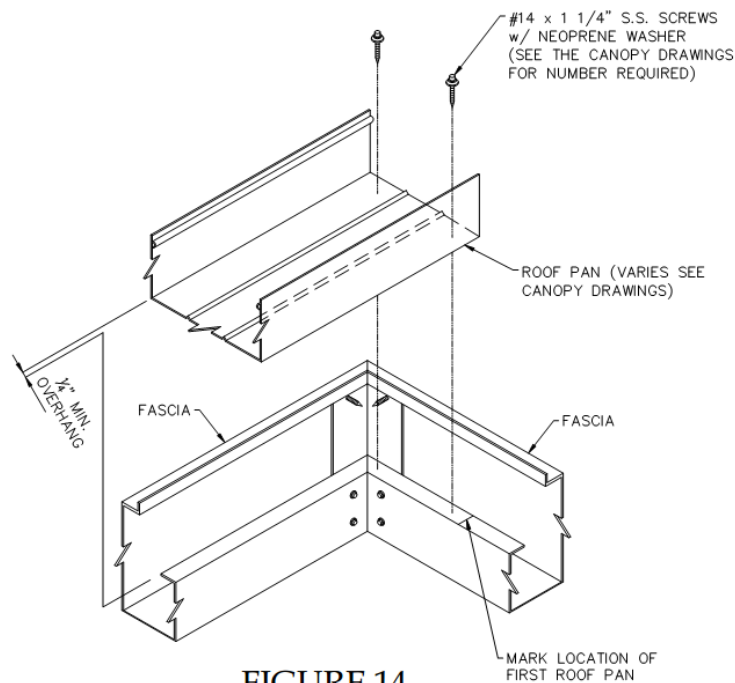

FIGURE 14
- A. Layout a starting point for the first pan to ensure that the support struts will fall inside the pans. This will vary depending on the style roof pan that is being used. Attach the first pan with SS screws with neoprene washers (Figure 14) to the fascia lip. See the canopy drawings for the size and number of screws to use.